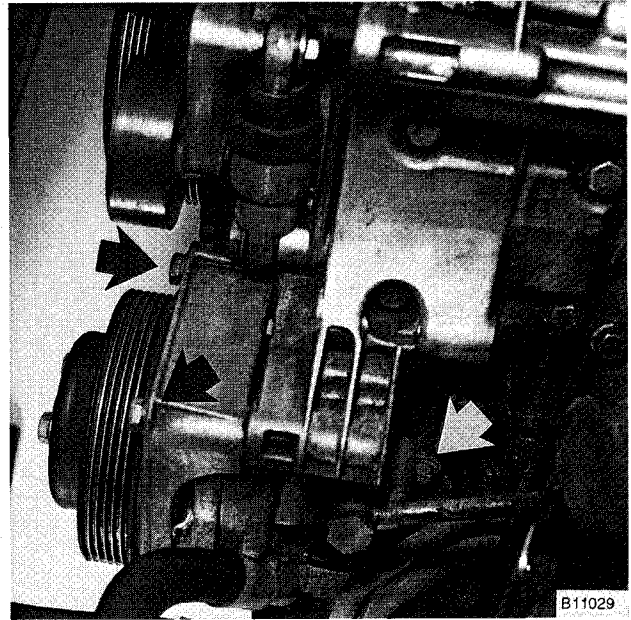

Fig. 14. Power steering pump mounting bolts (**arrows**), M52 engine shown.
20. Remove power steering pump from its mounting bracket. See Fig. 14. Use stiff wire to hang pump from body.